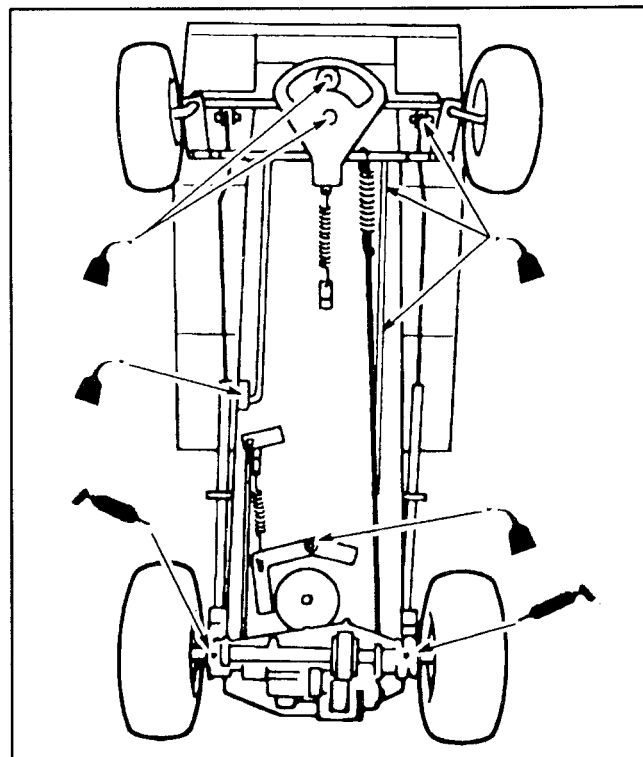
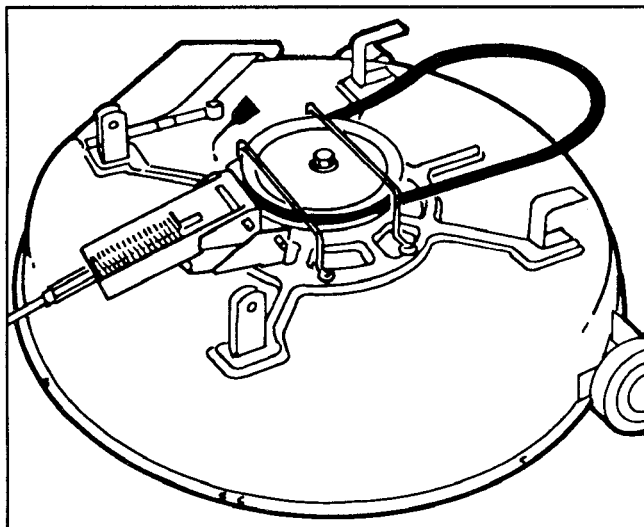

Figure 13
Figure 14
4. Lubricate rear axles with one or two pumps of No. 2 general purpose grease. The grease fittings are just inside the rear tires on the bottom of the transmission (Fig. 13).
7. Lubricate the pivot points in the steering, drive, brake, clutch, and deck engagement linkage with light oil (Fig. 13). Also lubricate the mower housing (Fig. 14). Wipe up any excess oil.